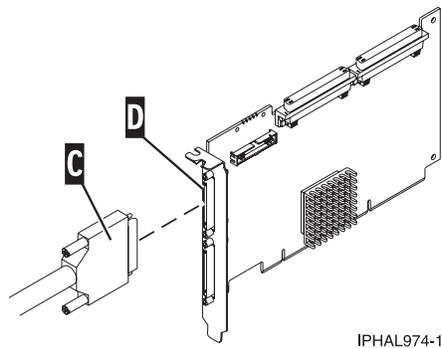

Figure 20. SCSI cable to SCSI interface card
3. Install the other end of the SCSI cable C to the SCSI adapter D on the server. For more details, see Figure 20.